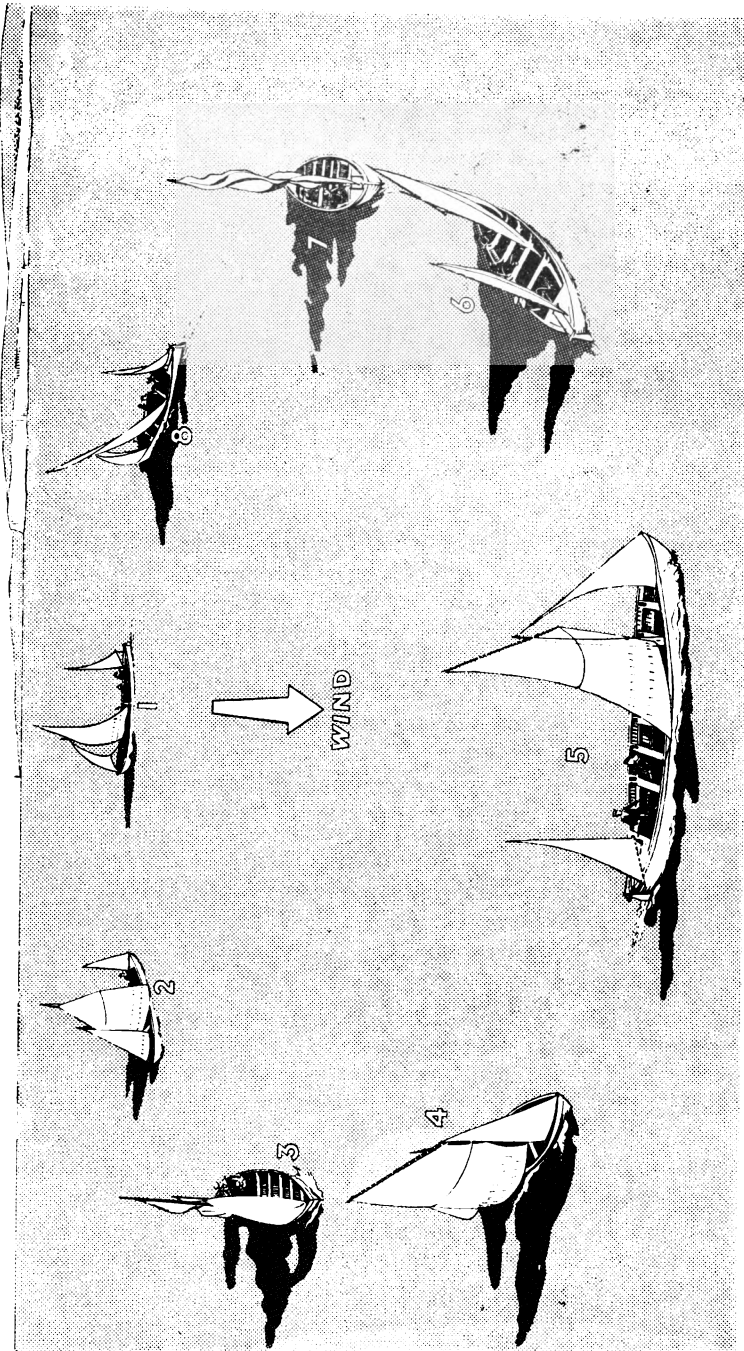

Fig. 208.—Sailing terms
with the wind directly astern, but if she is sailing as close to the wind as possible they are trimmed nearly parallel with her fore-and-aft line (see Fig. 208).
Sailing Terms (see Fig. 208)
Close Hauled (Fig. 208 (6 and 8)). Most boats cannot be sailed to windward on a course which makes a lesser angle than about 40 to 50 degrees with the direction from which the wind is blowing ; the actual angle for any particular boat depends upon her type and rig, and no Service boat other than the sailing dinghy will sail closer than about 50 degrees off the wind. A boat which is being sailed as close as possible to the wind is said to be "close hauled."
Reaching (Fig. 208 (1 and 5)). When a boat is sailing with the wind abeam, or a little before the beam, she is said to be "reaching."
Running (Fig. 208 (2 and 4)). When a boat is sailing before the wind, or with the wind abaft the beam, she is said to be "running."
Tacks and Tacking. When close hauled, or reaching, the distance sailed by a boat on any one course is called a "tack" ; when she has the wind on her starboard side she is said to be on the "starboard tack," and when on her port side she is said to be on the "port tack." When she alters course head to wind from one tack to the other she is said to "tack" or "go about" (Fig. 208 (7)). The order "Ready about" is the warning to the crew to stand by to tack.
Gybing and Gybes. As the boat's stern passes through the wind when wearing, the mainsail will be blown from one side to the other, and the boat is then said to "gybe" (Fig. 208 (3)). When running with the wind on her starboard quarter a boat is said to be on the "starboard gybe" (Fig. 208 (2)), and when running with the wind on her port quarter she is said to be on the "port gybe" (Fig. 208 (4)).